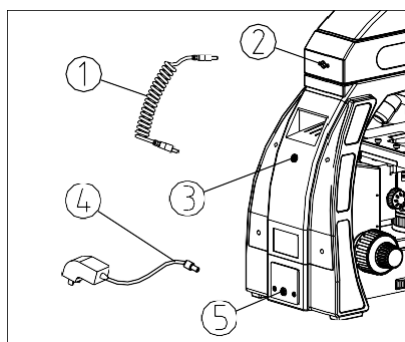

Fig. 28
(5) Insert one end of the external power adaptor ④ into the power socket ⑤ of the microscope back, and then insert the other end into the power supply socket, and ensure them be connected well. (see Fig. 28)